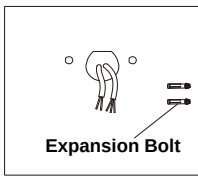

Figure 22
- Step 2: Using a hammer (not provided), tap the expansion bolts into the wall. (Figure 22)